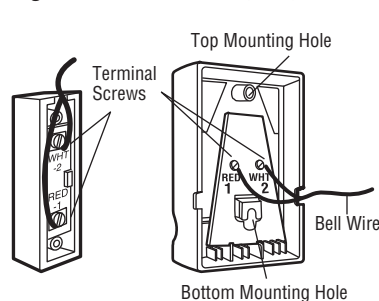

Figure 4 REMOVE COVER
- Model 1215EM - Lighted door control:** Remove the cover from the Lighted Door Control. Fasten to wall with 6ABx1-1/2" self-tapping screws (Figure 4).